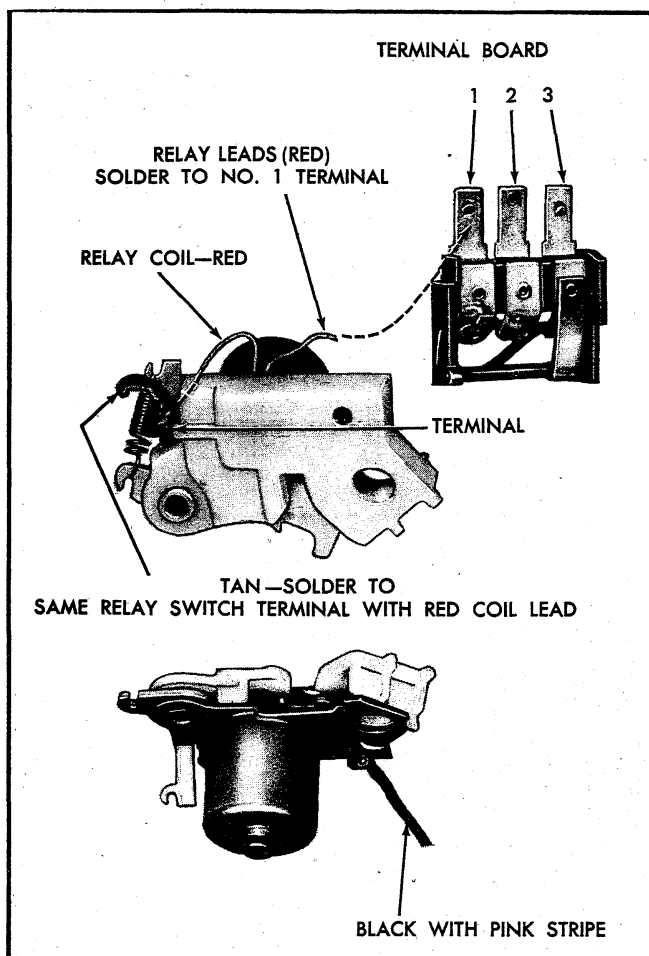

Fig. 82 - Relay Assembly Wiring
1. Resolder leads to wiper terminal board as required (fig. 82).
3. Resolder leads to relay switch assembly as required (fig. 82).